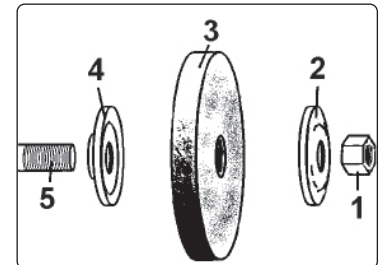

fig.7
- 5.2.5. Remove grinding stone washer (2) (fig 7), stone (3), washer (4) from main spindle (5).